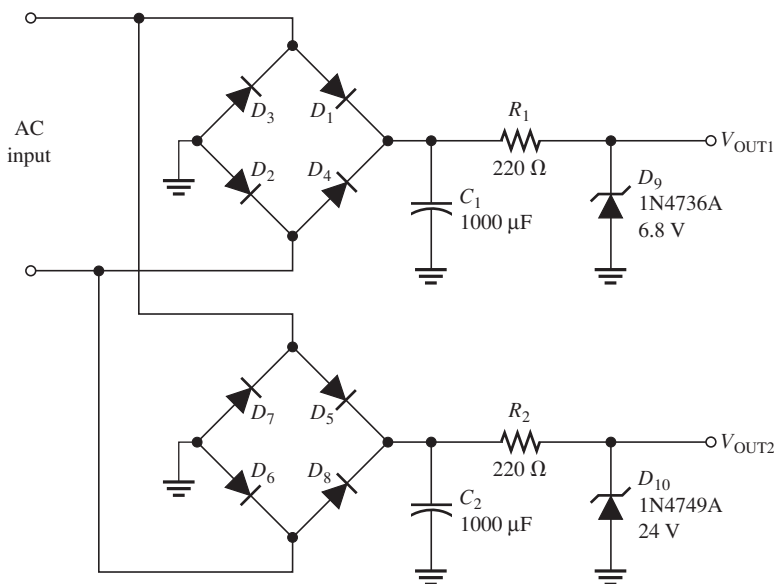

FIGURE ANS-7
- 31. See Figure ANS-7. The output voltages are $V_{OUT1} = 6.8$ V and $V_{OUT2} = 24$ V.